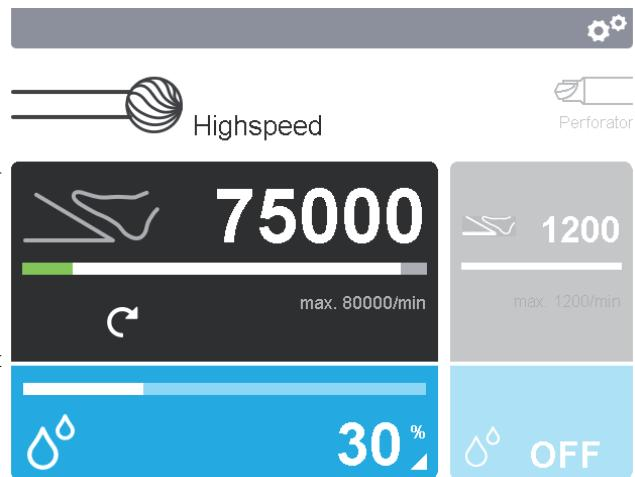

Fig. 5 Activating the control panel
- ▶ Changing the setting parameters of the applied part: Activate the applied part control panel **b** in the display 2, see Fig. 5.